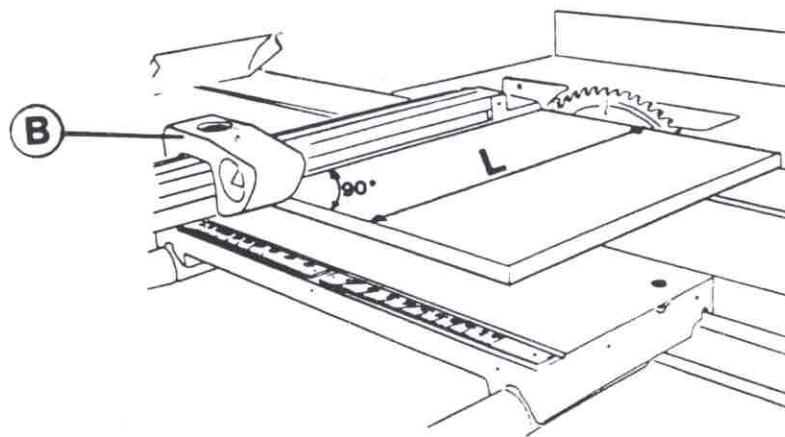

Fig.35
- Keep the position of stop (B fig.35)
- Move rule (M) until the line corresponding to measure (L fig.35) coincides with the reference line of the lens of stop (B)